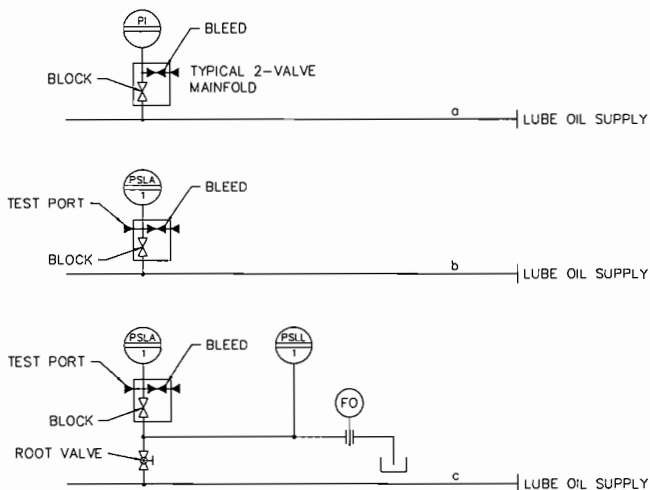

Figure 10. Instrument Valving.
- Install a test port as shown in Figure 10 (b), so the instrument can be checked and calibrated during operation.
- Figure 10 (c) arrangement should be provided for instruments operating in low ambient conditions. We recommend frost guards for reservoir level glasses when ambients are below 15°F.